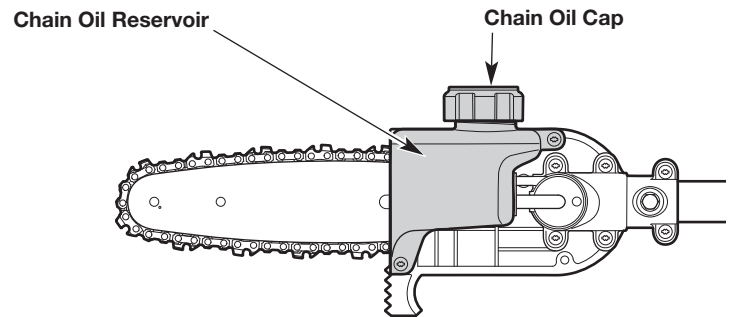

Fig. 14
1. **Set the unit on a flat, level surface. Position the unit with the chain oil cap facing up (Fig. 14).**
2. **Make sure that the chain oil reservoir is at least half full (Fig. 14).** If the oil level is too low, add bar and chain oil. Refer to *Filling the Chain Oil Reservoir*.
1. Set the unit on a flat, level surface. Position the unit with the chain oil cap facing up (Fig. 14).
3. Unscrew the chain oil cap (Fig. 14).